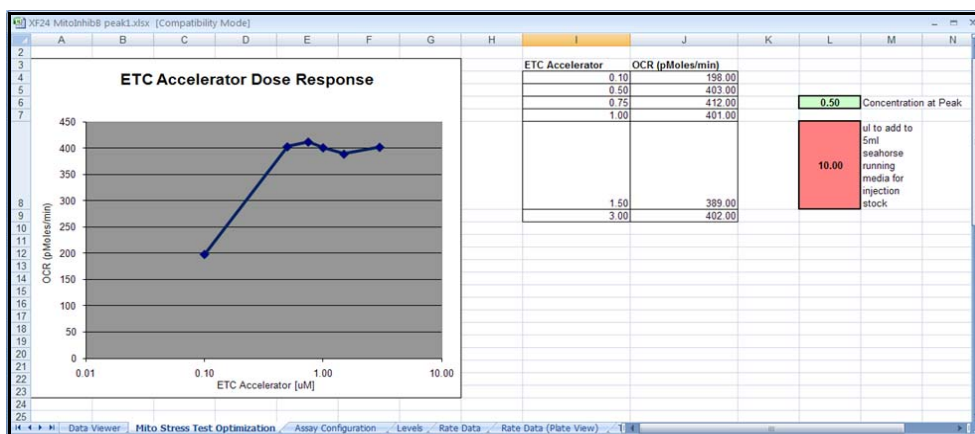

Figure 4.1
1. When the optimization experiment is complete, open the excel data output file, and choose the worksheet tab labeled "Mito Stress Test Optimization" (see Figure 4.1).